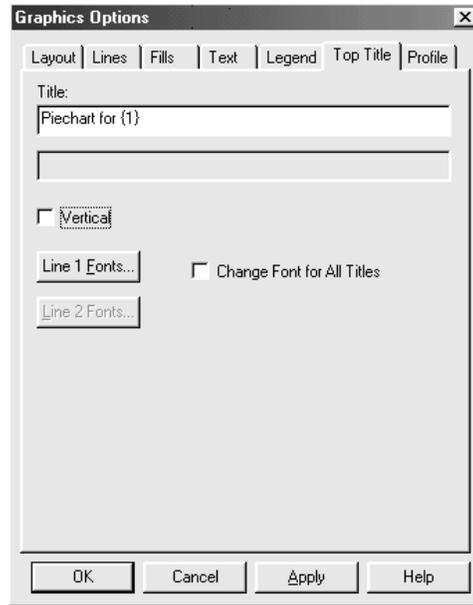

Figure 5-16. Top Title Tab Page
3. Left click on the graph, right click to display the pop-up menu, then the left on Graphics Options to display the Graphics Options dialog box opened to the Top Title tab page (see Figure 5-16).